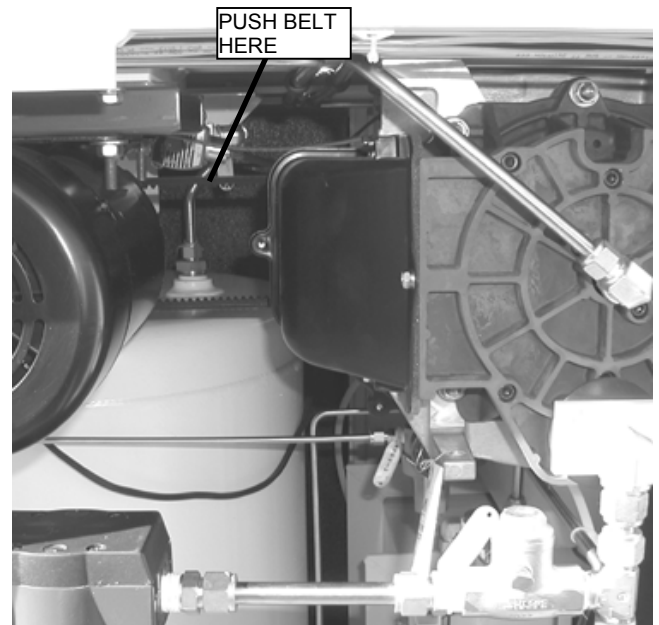

Figure 16. Checking Scroll Compressor Belt Tension.
- a. Check the belt tension by pressing the belt at the mid-point and measuring the force required to deflect the belt 0.22 inches. The force required should be 3.6-4.8 pounds for a used belt and 5.1-6.5 pounds for a new belt. Refer to Figure 16.